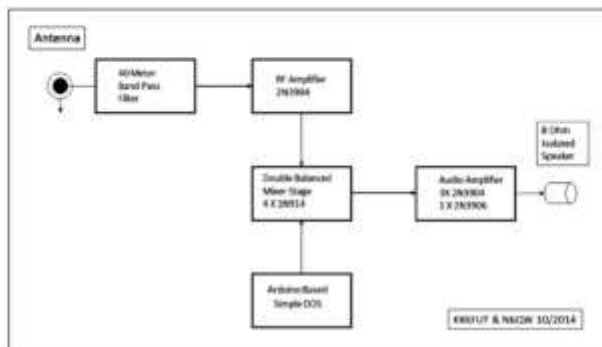

Figure 1—Direct conversion receiver block diagram.
operating at the exact frequency of the sideband signal is used as one input to a double balanced mixer. The desired sideband signal is the second input to the mixer and the difference frequency is the desired audio output. In this case, there is no intermediate frequency (IF) and the result is sometimes referred to as a zero IF receiver. Direct conversion involves, as its name implies, a direct conversion of off the air signals to an audio base band. A typical example would be a 40 Meter (7 MHz) SSB signal that is converted to audio directly via a mixing process. For this to happen, we need but a few circuit blocks, shown in Figure 1.
As shown in Figure 1, there are five major blocks to this project: the local oscillator (Arduino with DDS); our homebrew double band mixer (DBM); the audio amplifier circuit, the input band pass filter and finally an RF amplifier block. All of these blocks will be used in the final SSB transceiver circuit.